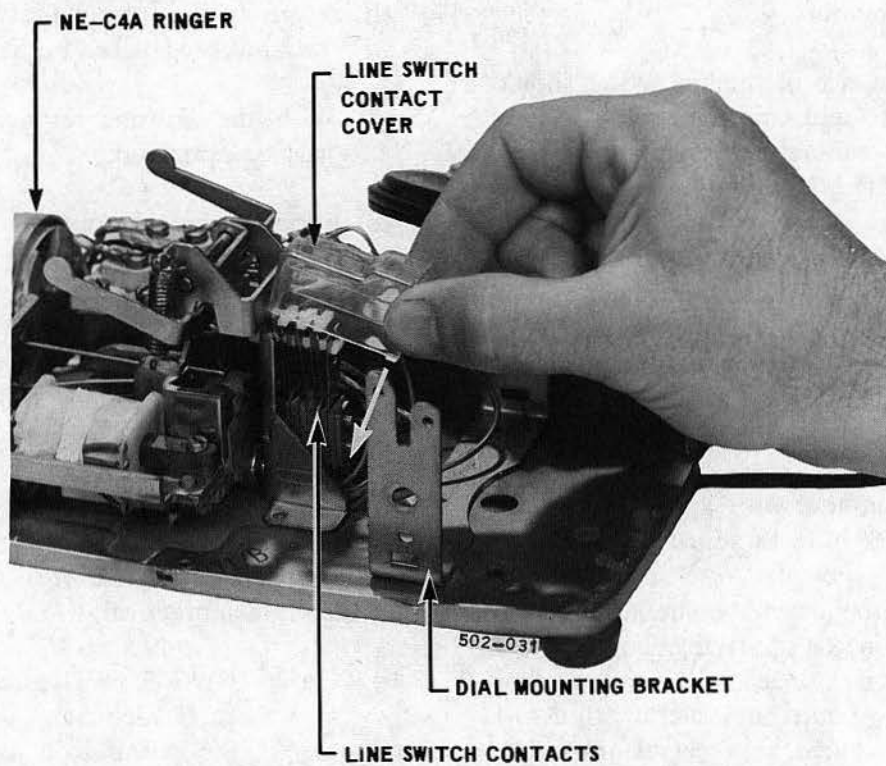

Fig. 15 — Removing Line Switch Cover
5.08 Remove the line switch cover by depressing the sides between the thumb and index finger to disengage the side tabs, move the cover down slightly to disengage the top tab, then tilt the cover towards the base and slide up to remove. (See Fig. 15.)